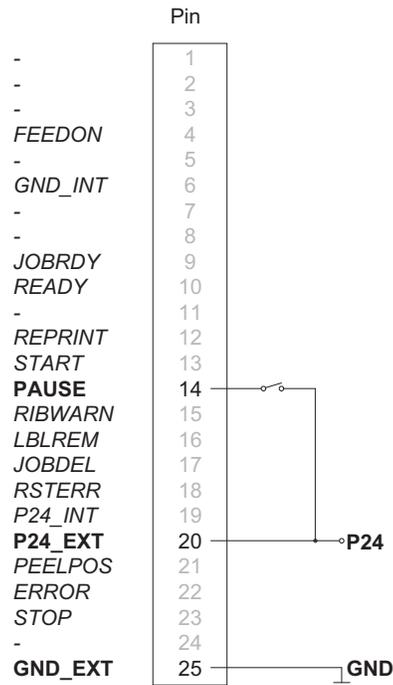
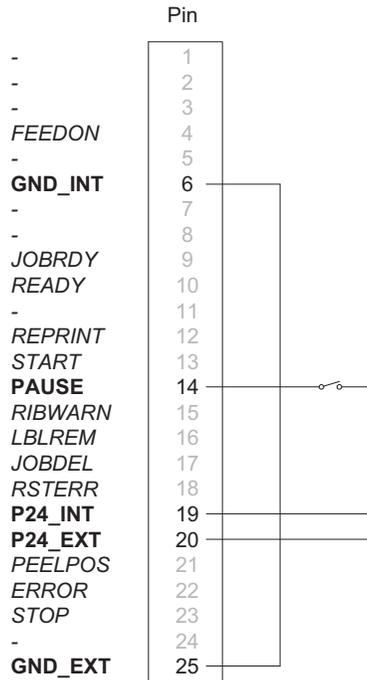

Figure 59: Operation with external voltage supply
Figure 60: Operation using the internal voltage
- External circuit as shown in Figure 59 / Figure 60